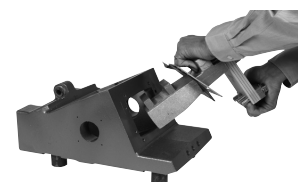

FIGURE 11
- Insert armature and diaphragm assembly through opening in front of base casting as shown in Figure 11.